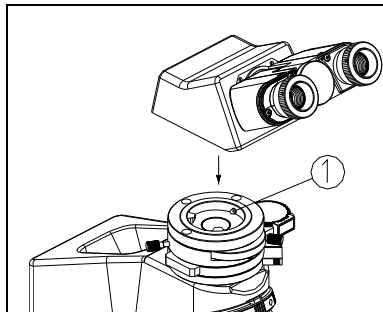

Fig. 9
- Loosen the head lock-screw① fully.
- Lock down the lock-screw. (Fig.9)